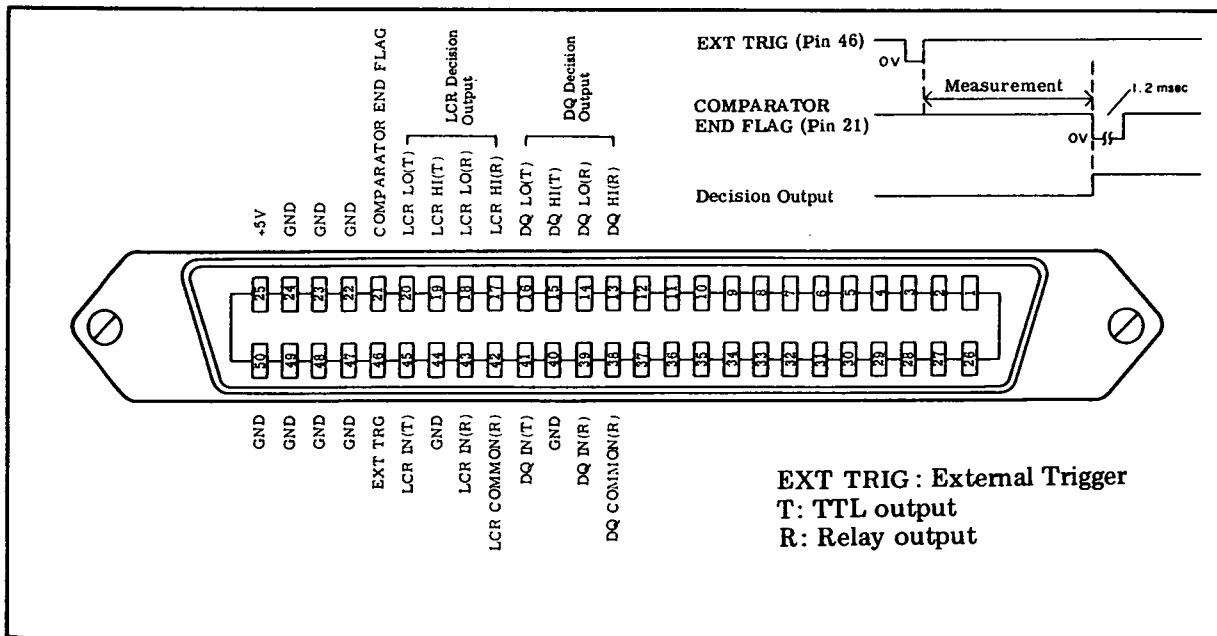

Figure 3-44. Comparator Data Output Pin Locations.
**3-53. DATA OUTPUT Connector Decision Output:** Decision outputs in TTL open collector signal and in relay contact are supplied through COMPARATOR OUTPUT connector on the rear panel. Signal pin assignment is given in Figure 3-44.